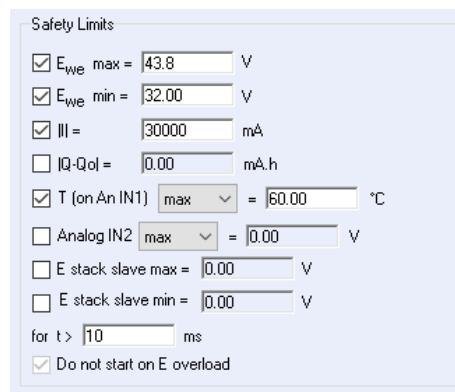

Figure 9: Safety limits in Advanced Settings.
- Safety limit in EC-Lab® must be set appropriately (Fig. 9). It is highly recommended to set the voltage range, maximum current and maximum temperature.